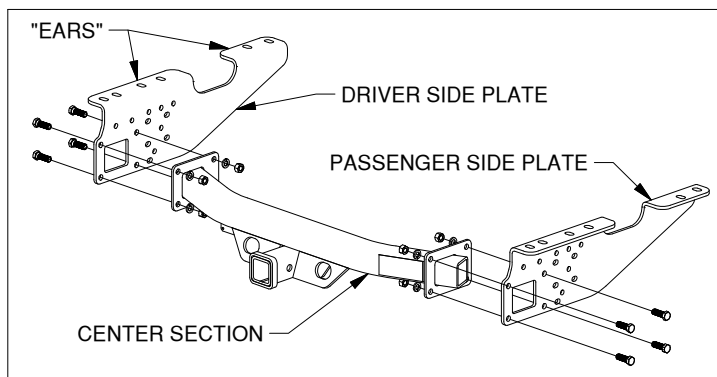

Figure A1: Center Section & Side plates.
1. Attach the two side plates to the center section using eight 1/2" X 1-1/2" cap screws, lock washers and nuts. Attach the side plates so that the "ears" of the side plates are toward the outside as shown in figure A1. Do not fully tighten the hardware at this time..